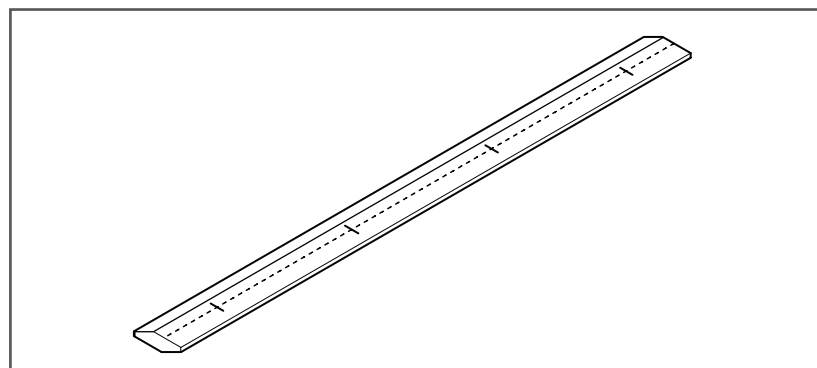

Figure 2
4. Lay the cleat (B) on a smooth, flat surface. Make a line through the center of the cleat. Mark the line with the measurements made in step 3 (Figure 2).